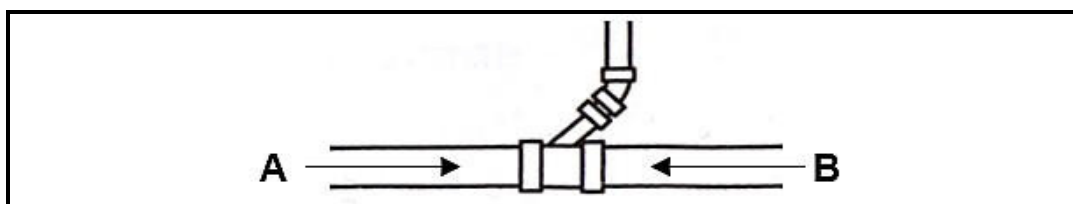

FIGURE 5.2
- 5.2 Which letter, **A** or **B**, indicates the flow direction of the sewage in the sewer pipe in FIGURE 5.2?